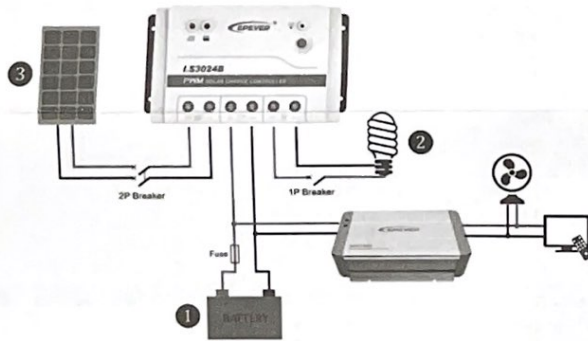

Figure 2 Connection diagram
Connect the system in the order of ① battery → ② load → ③ PV array as shown in figure 2 and disconnect the system in reverse order ③②①.